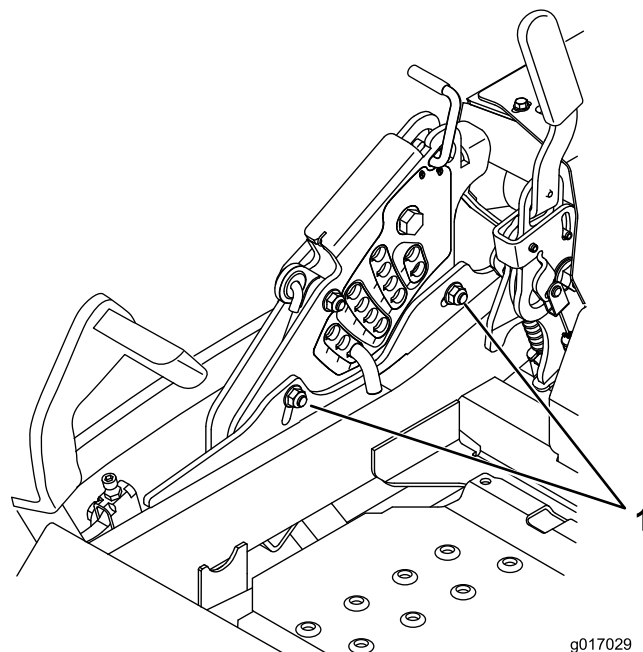

**Figure 86**
10. Fine-tune the adjustment nut on the front deck lift assembly by turning it (Figure 86).
16. Fine-tune the adjustment nut on the front deck lift assembly by turning it (Figure 86).